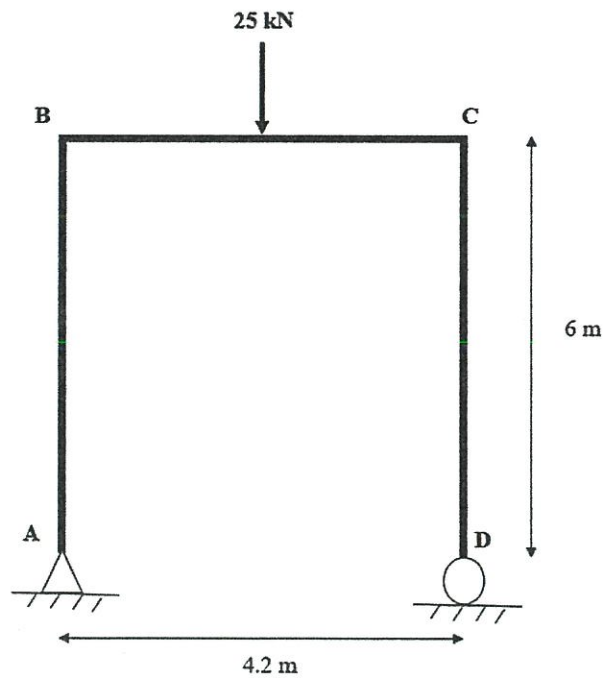

Figure Q2: Structure Frame
- Q2** A structure frame as shown in **Figure Q2** in **Appendix I** is loaded with a concentrated load of 25 kN at points B to C. The frame is pin support at point A and a roller support at point D.